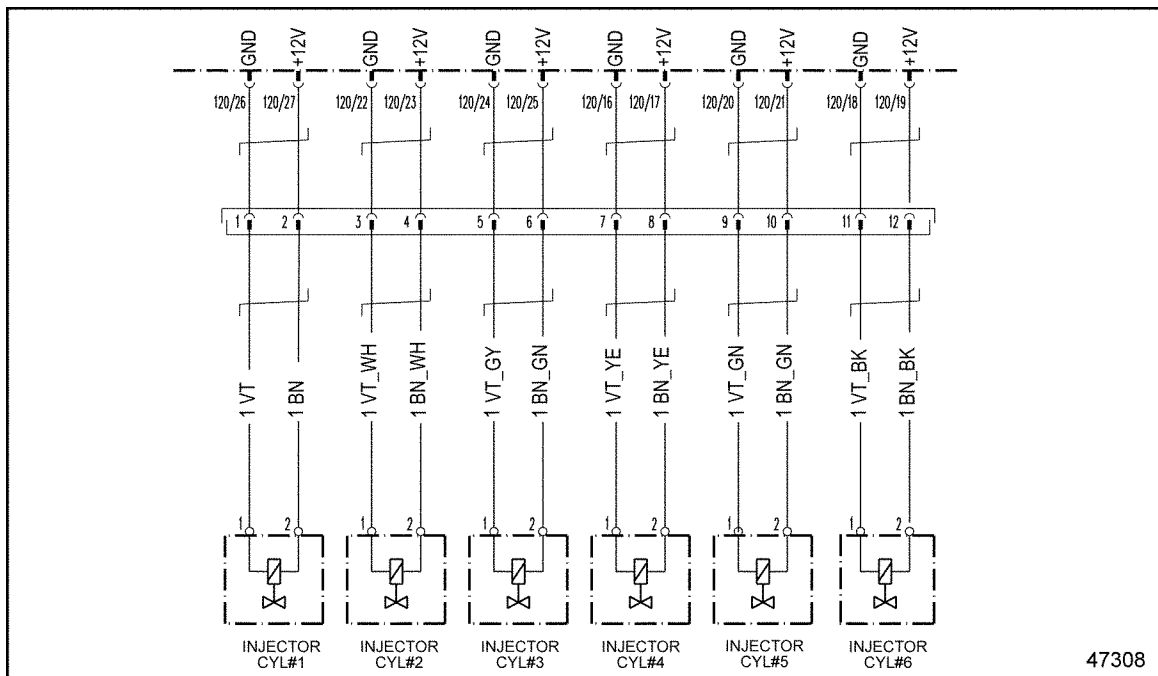

Figure 27-2 MBE 900 Injectors
3. Measure the resistance between pin 1 of injector #4 and ground on the valve cover side of the Injector Harness 12-pin connector. See Figure 27-2.